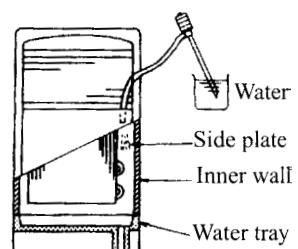

Fig 109
- (4) After finishing connection, insert water pipe to the right side of air outlet (see Fig. 109) and charge water gently to side plate of heat exchanger or inner wall of the unit. Charge 1000ml of water to check if the drainage is OK or if there is leakage.